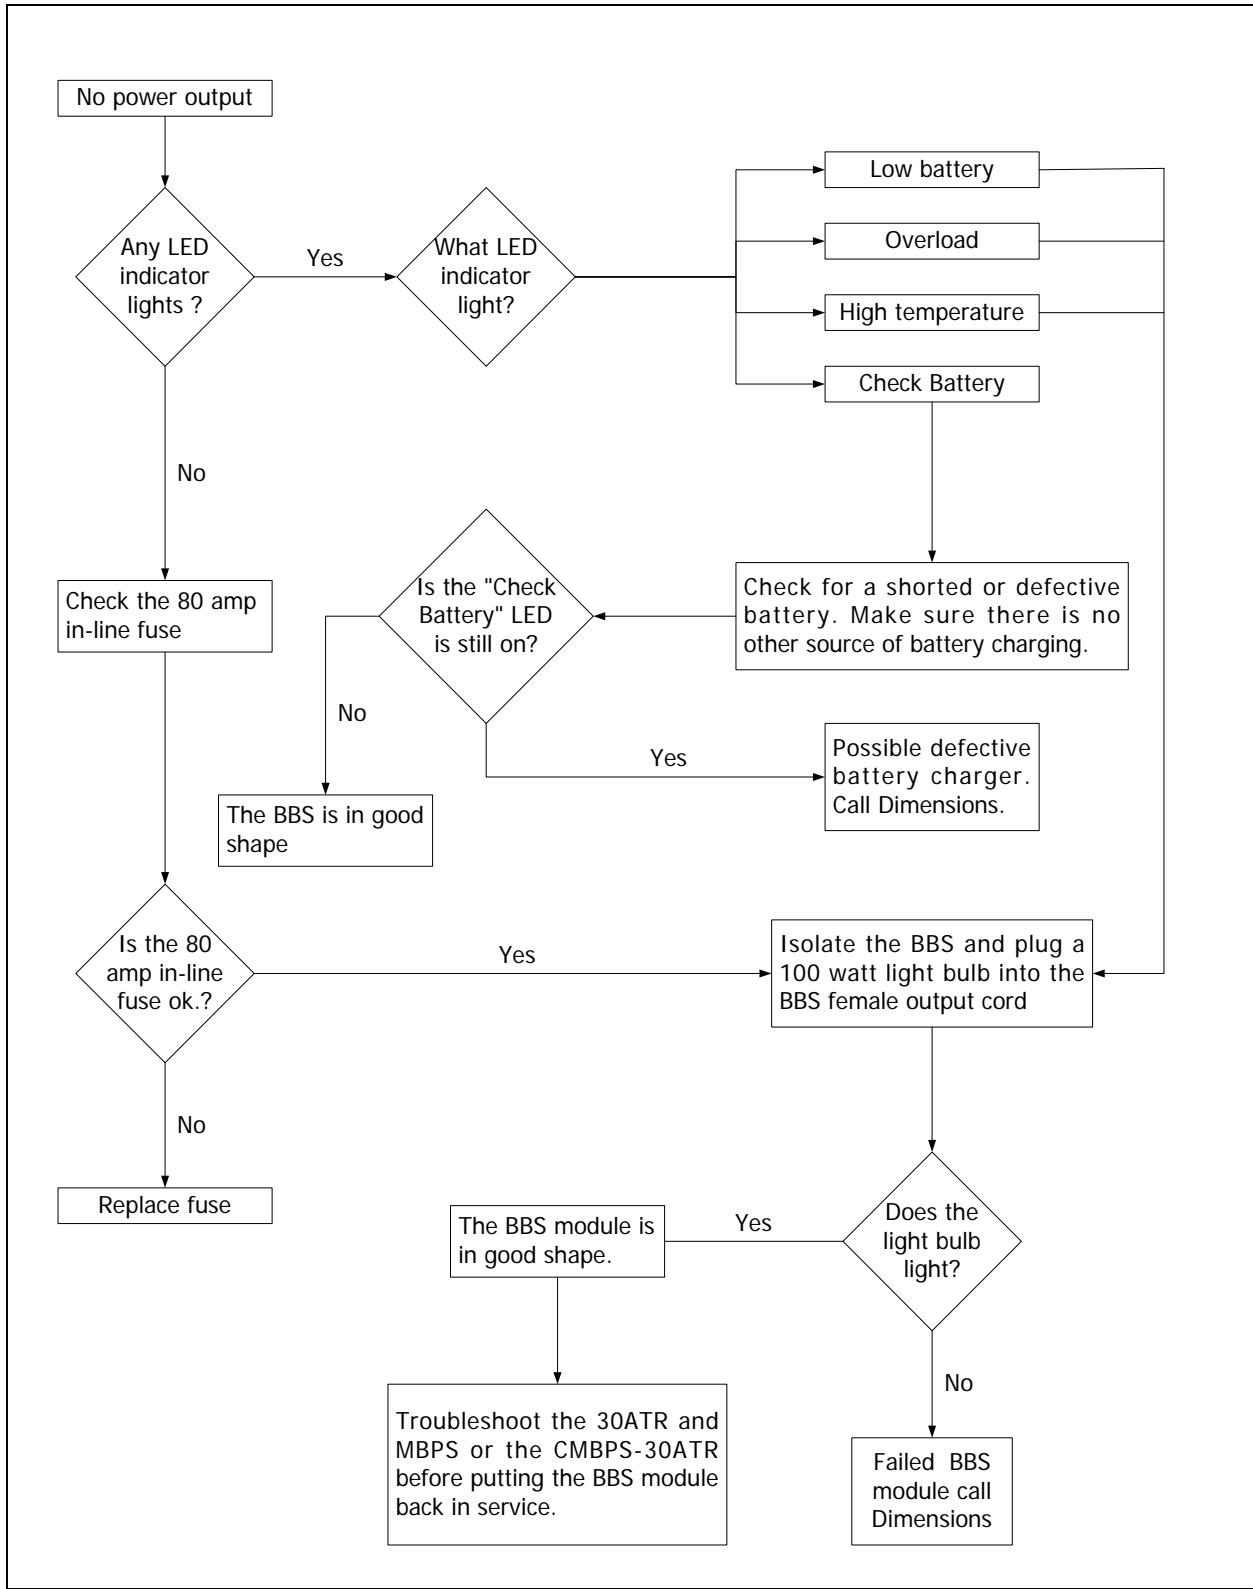

FIGURE 22: Troubleshooting Flow chart
- Observe the LEDs on the front control panel. Follow troubleshooting table 5 on page 30, and the Troubleshooting Flowchart Figure 22, page 31.